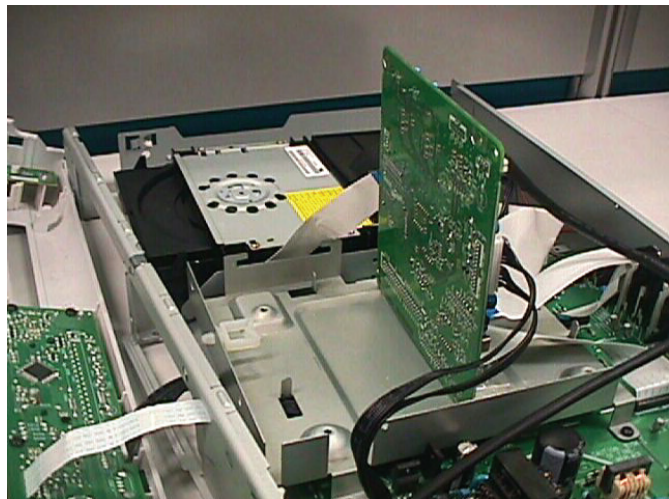

Figure 4-8
- 2) Service Position can be achieved by flipping the Digital board to the Vertical Position as shown in Figure 4-8.